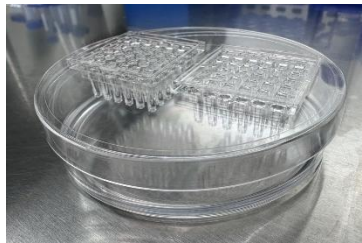

Figure 1. Hydration of the pillar plate surface in a 100 x 20 mm petri dish with 5 mL of sterile, distilled water to minimize air bubble entrapment.
2. Hydrate the surface of the pillar plate by inserting two 36PillarPlates into a 36PetriLid placed on a 100 x 20 mm petri dish containing 5 mL of sterile distilled water. Incubate the assembly in a humidified 5% CO₂ incubator at 37°C for 30 minutes prior to hydrogel loading (**Fig. 1**).